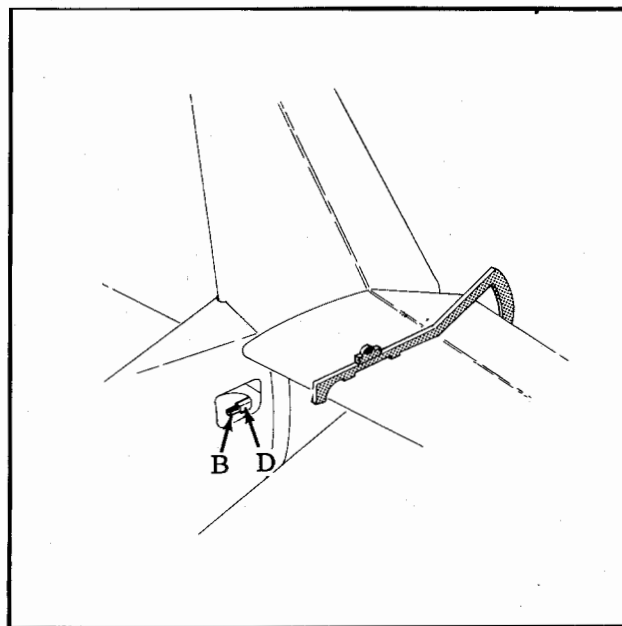

Figure 6-7. Stabilizer Trim Adjustment
NOTE: Measure elevator travel from 0° stabilizer thrust line with travel board centered on rivet line at stabilizer sta. indicated on travel board GSE 030004 and with stabilizer at 0° aircraft thrust line (See Figure 6-7).
- c. Turn disconnected torque shaft (B) clockwise or counterclockwise until horizontal stabilizer as measured using the travel board as shown by Figure 6-7 is within the following limits.